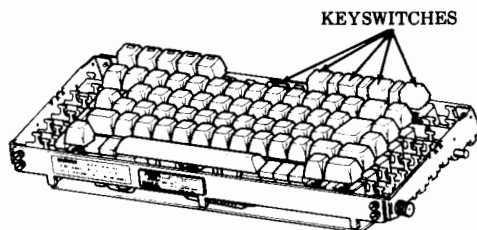

Fig. 13—Keyswitch Identification
- Remove the **INTERLOCK, PRINTER TEST, PARITY, DUPLEX** and **CPS** keyswitches (Fig. 13).